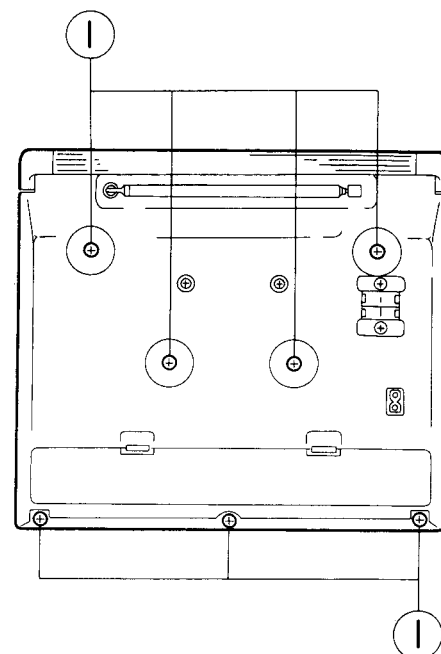
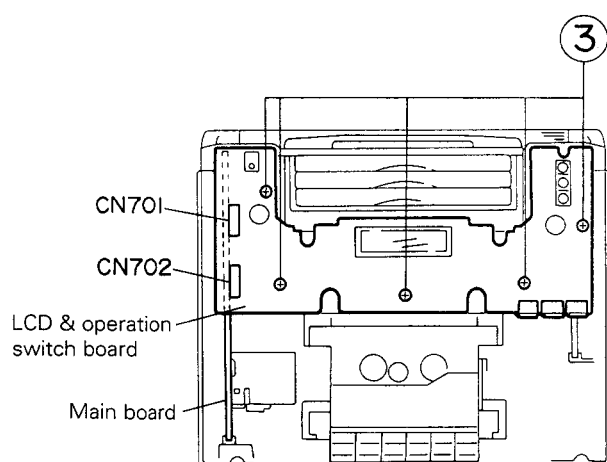

Fig. 5-1
Fig. 5-3
■ Front panel assembly (Refer to Fig. 5-1, 5-2.)
1. Remove seven screws ① from the rear side of the set.
2. Remove one screw ② from each side of the set (two screws in total).
■ LCD & operation switch board (Refer to Fig. 5-3 to 5-5.)
2. Remove five screws ③ retaining the LCD & operation switch board.